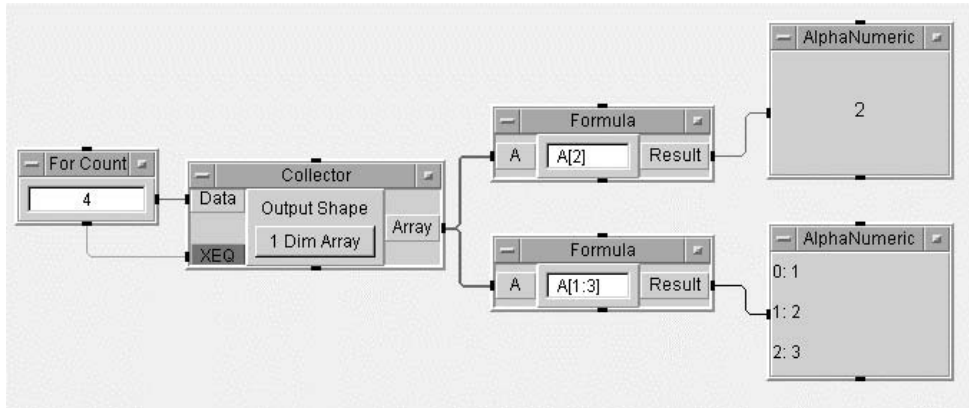

Figure 6.2. Extracting array elements with expressions
28. Run this modified program; it should look like Figure 6.2.